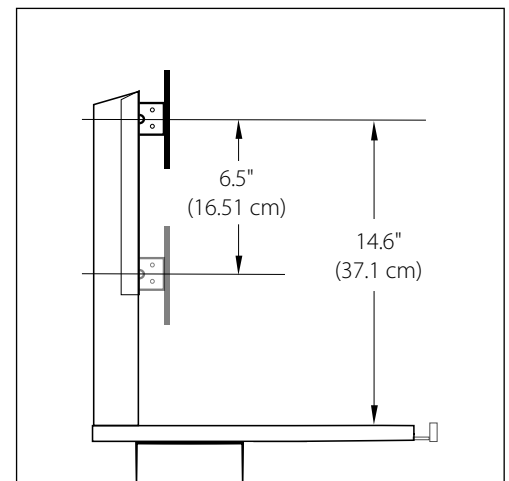

Figure 2
4. When removing the LCD/Display, the LCD/Display arm and the LCD/Display should be placed at the highest position (**Figure 2**). Remove the 2 bottom screws from the VESA plate, loosen the top 2 screws, and lift the LCD/Display off the VESA plate.